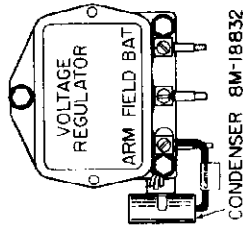

Figure 4
4. Mount Condenser 8M-18832 on the Voltage Regulator as shown in figure 4. Connect its lead to the "ARM" terminal on the Regulator. Be careful that Condenser bracket does not short on the terminal.